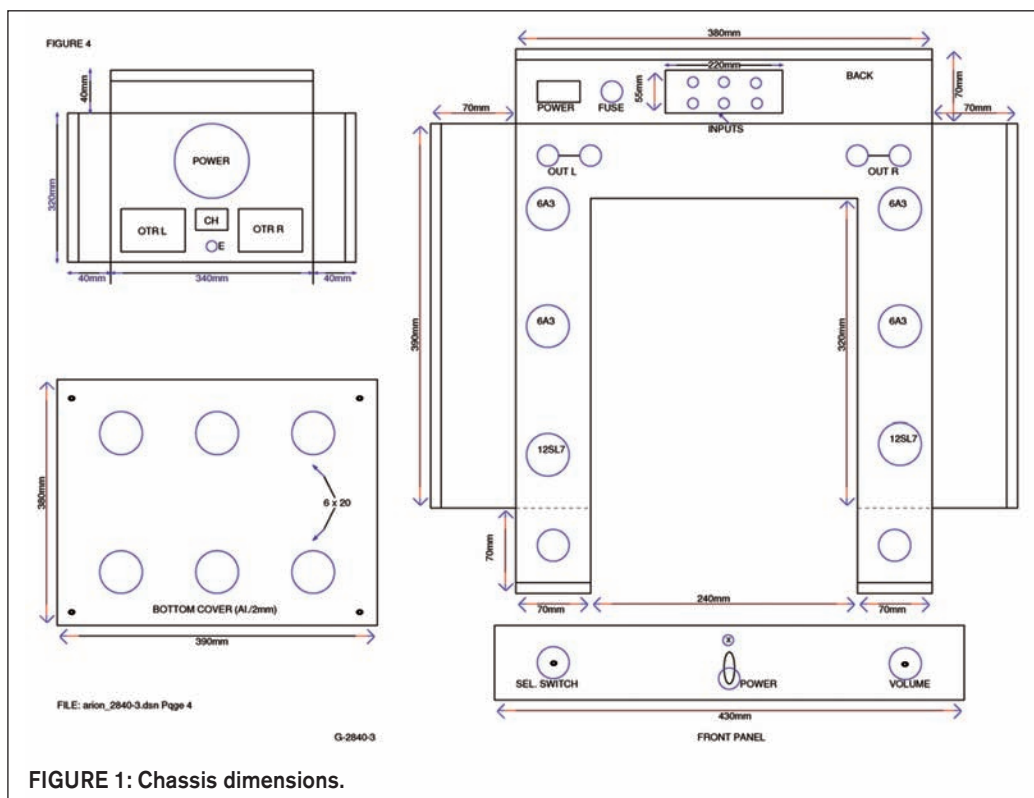

FIGURE 1: Chassis dimensions.
**M**y latest tube amp (**Photo 1**) features 6A3 tubes (2A3, with 6.3V heating), preceded by 12SL7 tubes. I call this unit Black Cherry, due to the color scheme of the chassis. The unit's dimensions (**Fig. 1**) are in metric, and the circuit (**Fig. 2**) includes nothing new under the sun, mainly due to the work of American and European pioneers who have gone before (primarily between 1938 and 1970). I chose simplicity in the design, because I'm sure that the best amp is simply a wire connected between a source and the speaker. Unfortunately (or not), we need to put something in between.